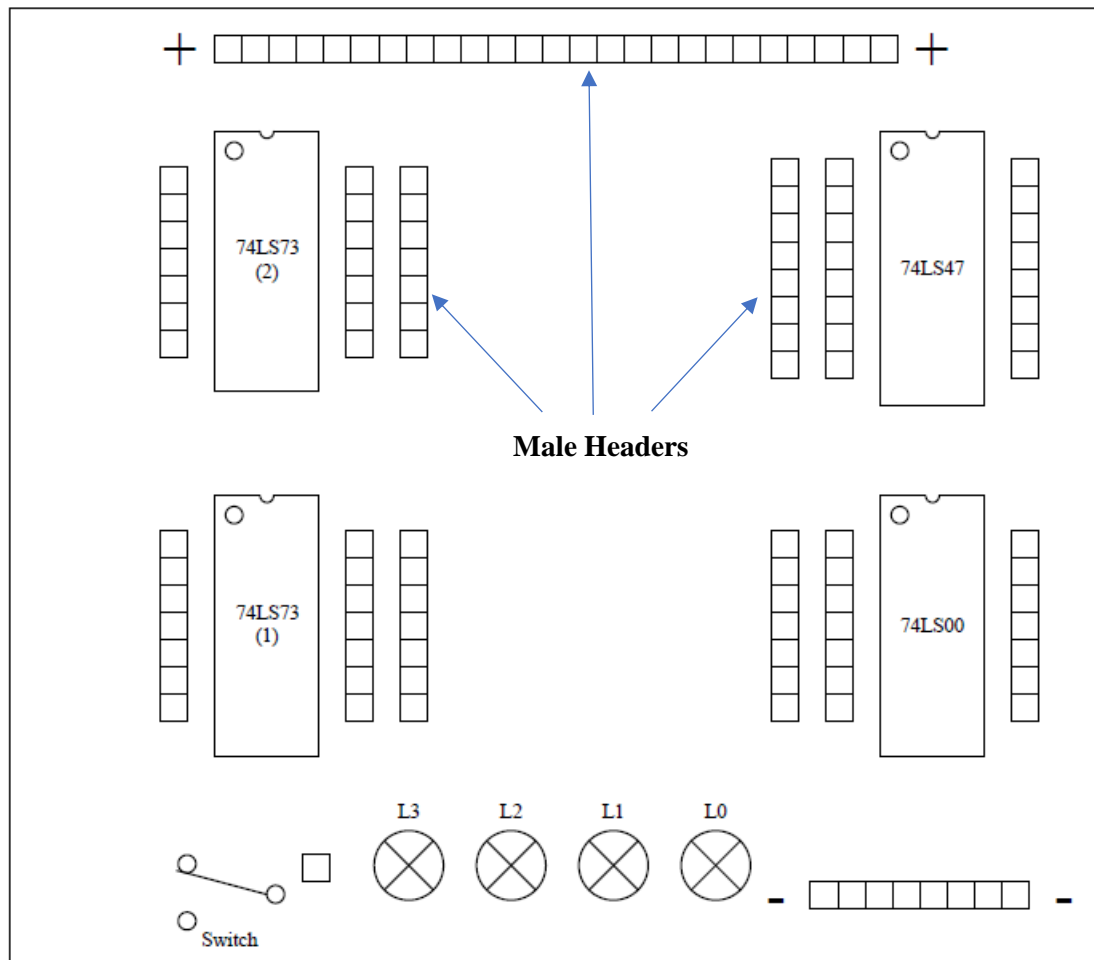
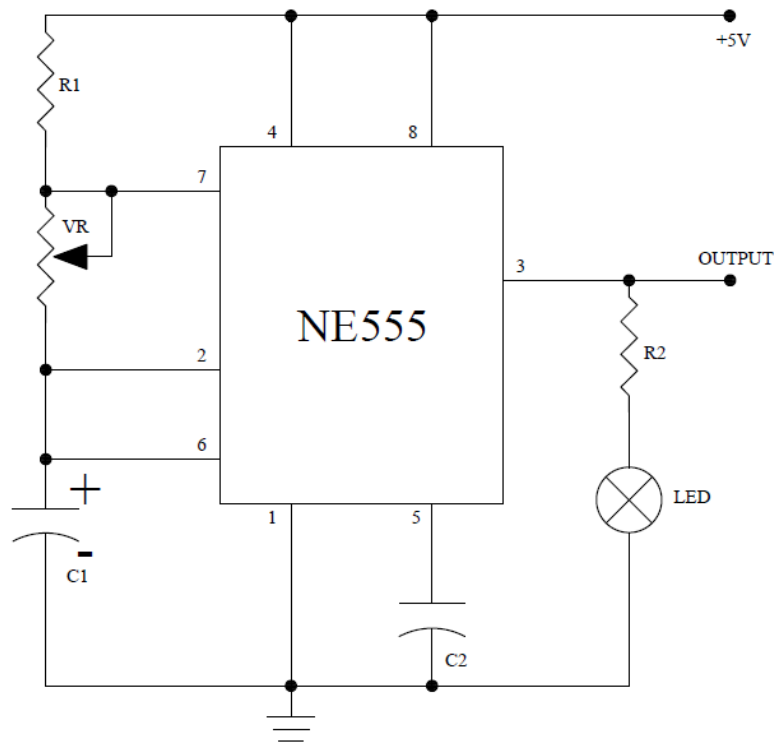

Figure 11-1: COUNTER 1 circuit diagram
Figure 12-1: Clock Pulse Generator circuit diagram
STEP 5: Connect the output of Clock Pulse generator circuit (Figure 12-1) to the relevant terminal of flip-flop 1 in the COUNTER 1 circuit (Figure 11-1) as shown in the diagram below. And connect the supply header rows of Clock Pulse Generator circuit with the COUNTER 1 circuit to maintain the same supply potentials at both circuits.
STEP 6: Finally provide the supply to the Clock Pulse Generator circuit to obtain the output from the LEDs (Function of Clock Pulse Generator circuit was explained before. Figure 12-1). **Refer page 14 for switch configuration of the common circuitry.**
STEP 5: Connect the output of Clock Pulse generator circuit (Figure 12-1) to the relevant terminal of flip-flop 1 in the COUNTER 1 circuit as shown in the diagram below. And connect the supply header rows of Clock Pulse Generator circuit with the COUNTER 1 circuit to maintain the same supply potentials at both circuits.
STEP 6: Finally provide the supply to the Clock Pulse Generator circuit to obtain the output from the 7-segment display (Function of Clock Pulse Generator circuit was explained before. Figure 12-1). **Refer page 14 for switch configuration of the common circuitry.**